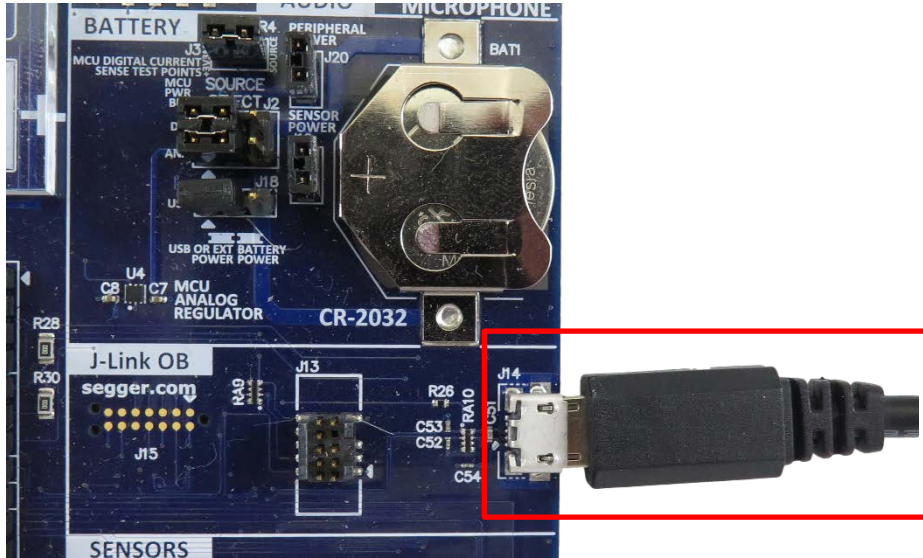

Figure 1. Power setup (top) and J-Link OB connection (bottom)
1. Connect the JLink-OB on J14 of the DK-S124 to the PC using a micro USB cable (Figure 1).